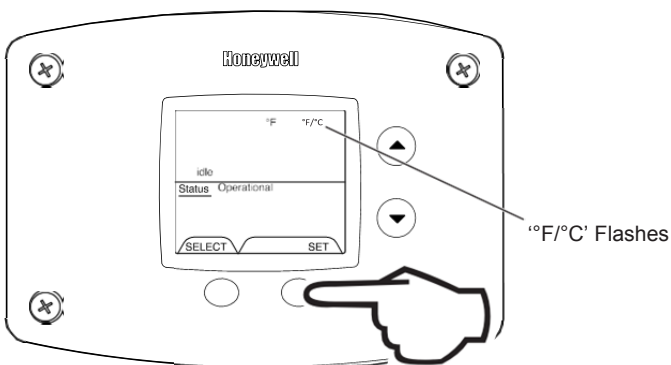

Fig. 54
2. Press 'Set' button to change temperature format. '°F/°C' symbol will flash in the water heater display (Fig. 54).